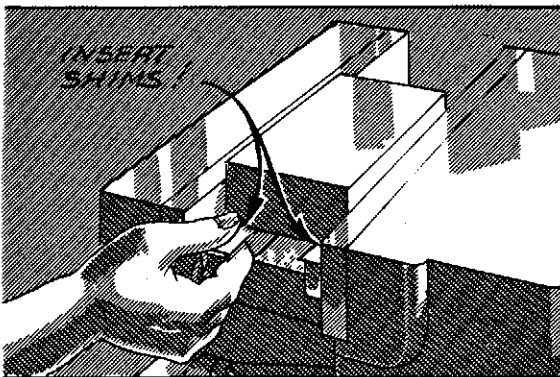

FIG. 299
8. If the work is likely to move down in the vise as a result of the cutting pressure, place shims under the parts of the job that do not rest on parallels or on the vise. (Refer to page 114 and Fig. 299.)